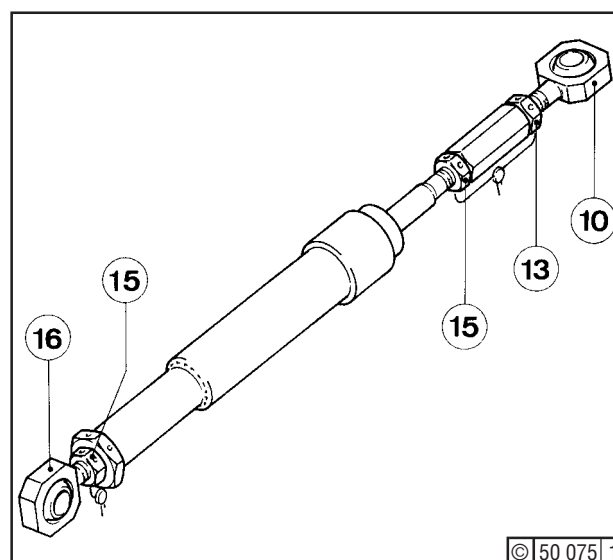

Fig. 5
Loosen hex. nuts (13) - Fig. 5 - and (15) and turn out link heads (10) and (16).